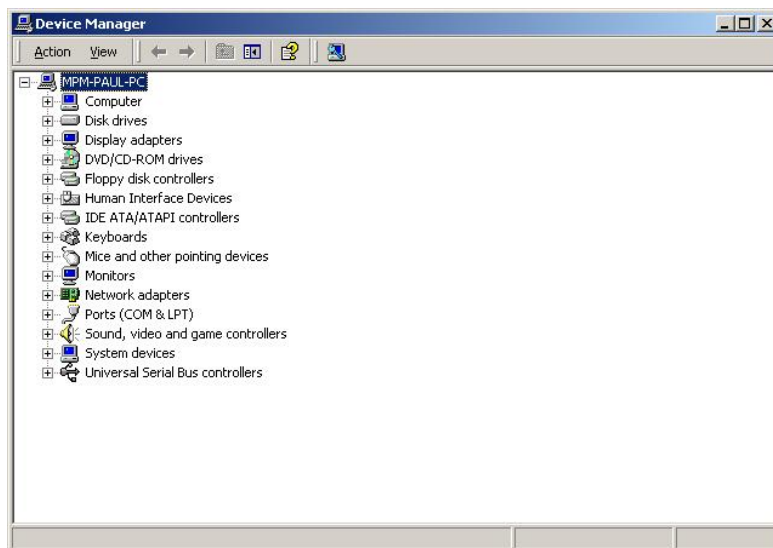

Figure 6-23: Device Manager List
Step 4: A list of system hardware devices appears (Figure 6-23).